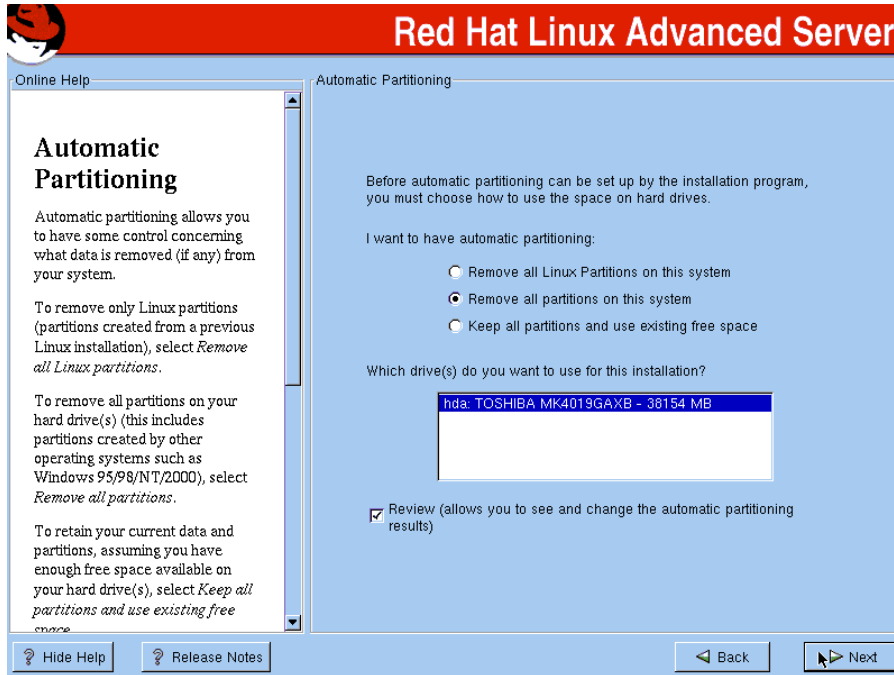

Figure 20. Automatic partitioning
- c. On the Automatic Partitioning screen (Figure 20), check **Review** and click **Next**.